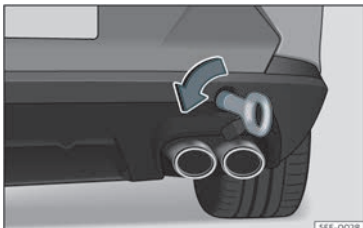

Fig. 46 On the right side of the rear bumper: towline anchorage in position.
- Screw the towing eye in the housing by turning it to the maximum **anticlockwise** >>> **Fig. 46** >>> **!** Use a suitable object that can completely and securely tighten the towing eye in its housing.